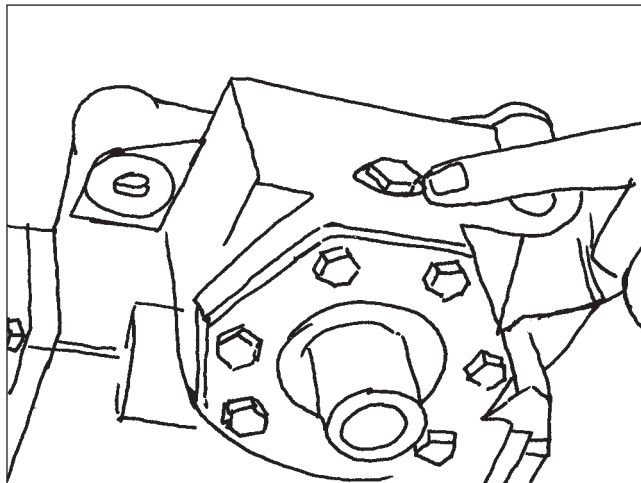

Figure 35
15. Locate the bleeder screw in the master gear located in the plug on the sector shaft bore (Figure 35).